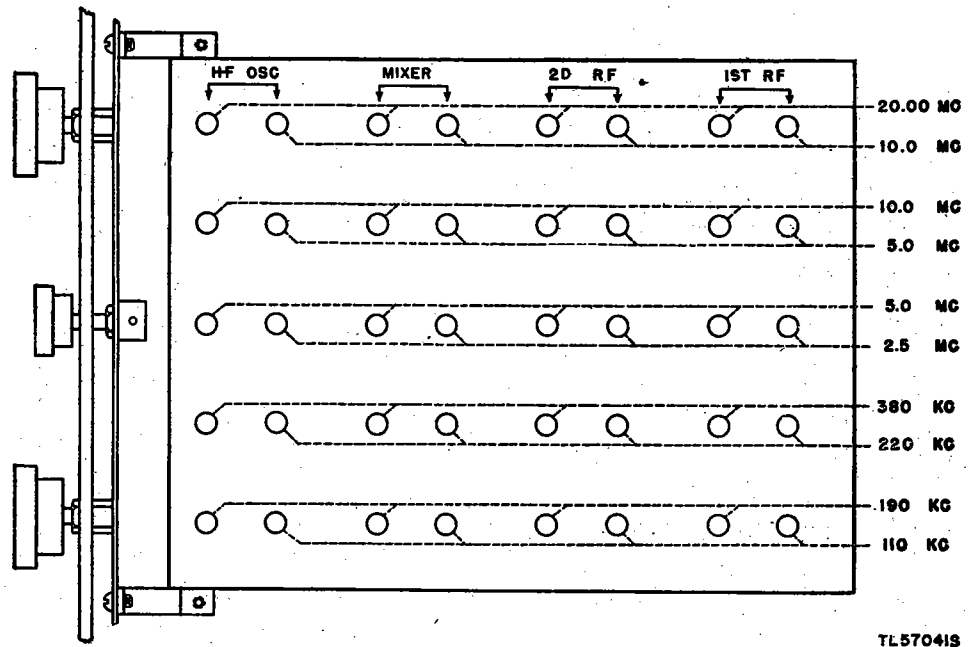
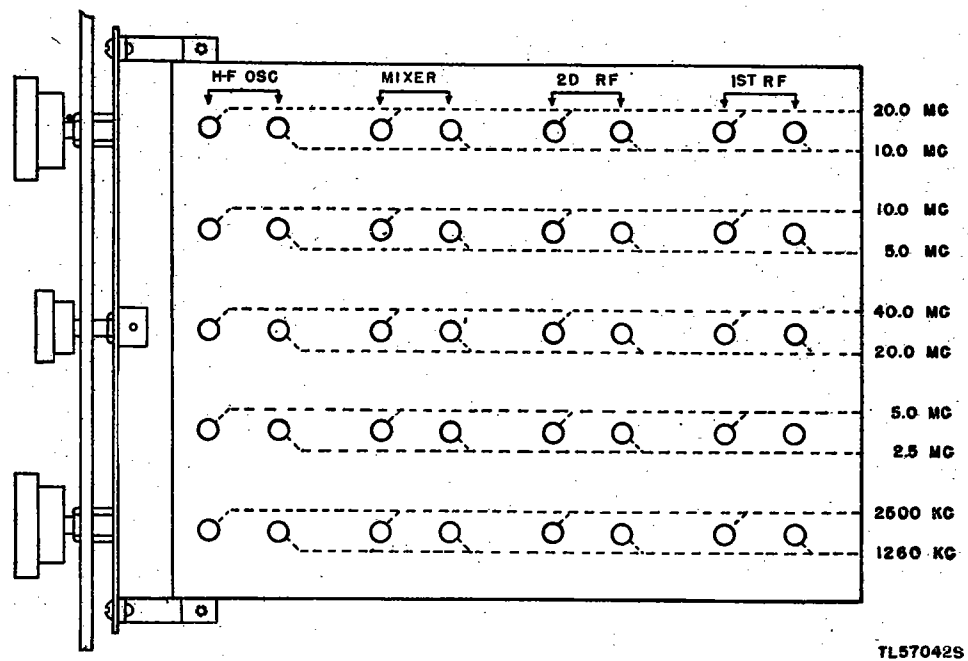

Figure 46. Radio Receiver BC-779-(*), alignment chart.
Figure 47. Radio Receiver BC-794-(*), alignment chart.
shown in figures 46, 47, 48, and 49, respectively. If necessary, the second harmonic can generally be used when the fundamental frequency is not available. For example, a signal generator covering all frequencies from 100 kc to 20 mc, in addition to being ideal for checking Radio Receiver BC-779-(*), could be used to check Radio Receiver BC-794-(*), by using the second harmonic of 20 mc instead of the 40 mc called for in figure 47. The signal generator should have an output of about 100 microvolts and an output impedance of approximately 100 ohms for best results when alining the r-f and h-f oscillator circuits. For i-f alinement these values are not critical. The frequency calibration of the signal generator is extremely important in order that the receiver dial calibration be correct.
b. To correct dial calibration, refer to an alinement chart, figure 46, 47, 48, or 49 for the location of the h-f oscillator adjustments as well as the signal frequencies at which the settings should be made. If the 2.5- to 5.0-mc band is to be corrected, the signal generator may be *accurately* set to 2.5 mc and its second harmonic (if strong enough) used for the 5.0-mc end of the band. In either case, whether the 5.0-mc frequency is the fundamental or second harmonic, the 5.0-mc frequency *must* be accurate. This requires that the setting of the signal generator be accurately adjusted by the use of a frequency meter as described in paragraph 94. The output of the signal generator should be unmodulated and the SIGNAL MOD-CW switch on the receiver turned to CW. Set the BEAT OSCILLATOR control at 0, the AUDIO GAIN at 10, and the AVC-MANUAL switch on MANUAL. Disconnect the output meter and use headphones or loudspeaker to make the necessary adjustments by the zero beat method. Connect the signal generator to the antenna terminals for this test.
c. Set the receiver MAIN TUNING dial to the 5.0-mc end and then tune it to zero beat with the 5.0-mc output of the accurately calibrated signal generator. Notice the approximate dial error. Then turn the MAIN TUNING dial slightly toward the 5.0-mc calibration line until the beat note rises to a high pitch. Do not turn the dial far enough to raise the beat note so high that you cannot hear it. With the alinement screw driver adjust the trimmer capacitor marked H-F OSC-5.0 MC (fig. 46, 47,
48, or 49) until the beat note is again zero. Turn the MAIN TUNING dial still farther toward the 5.0-mc line and make a further adjustment of the trimmer capacitor to return to zero beat. Repeat this procedure as many times as necessary to bring the dial to exactly 5.0 mc. (It is evident that the dial could be set at once on exactly 5.0 mc and the trimmer turned enough at one time to produce zero beat, but the step-by-step method is recommended). Accurately set the signal generator to 2.5 mc by calibrating it with the frequency meter. Then tune in the 2.5-mc signal at the l-f end of the MAIN TUNING dial and correct the calibration step-by-step, as before, using the inductance trimming adjustment H-F OSC-2.5 MC (fig. 46, 47, 48, or 49). Accurately set the signal generator for an output of 5 mc again, and tune the receiver to this frequency. It will be found that the adjustment of the inductance at 2.5 mc has changed the correction previously made at 5.0 mc. This is perfectly normal, because an adjustment at one end of the dial also affects the other end of the band. It will therefore be necessary to go back and forth several times from 2.5 to 5.0 mc in order to bring both ends of the dial scale into exact agreement with the signal frequency. Be sure that the signal generator is always accurately set.
c. Starting with the 2.5- to 5.0-mc band, set the MAIN TUNING dial at 5.0 mc (band spread dial at 100) and adjust the frequency of the signal generator for peak deflection of the output meter. Then check and adjust the setting of the trimmer marked MIXER and 5.0 MC in figure 46, 47, 48, or 49 for maximum reading on the output meter. Repeat this procedure on trimmers indicated as 2D RF and 1ST RF in the same row. If readjustments on one of these settings result in a sizable increase in output meter reading, slightly alter the SENSITIVITY control to reduce the reading to half-scale. After each adjustment check the tuning of the receiver to make sure that the test signal is still accurately tuned. The BAND SPREAD control may be used as a vernier for this purpose in those bands in which it operates (par. 15c). *This tuning check is extremely important at the high end of the 10- to 20-mc and 20- to 40-mc bands where there is some slight interaction between the mixer and h-f oscillator circuit.* After checking the three trimmers at the high end of this band, turn the MAIN TUNING dial to 2.5 mc and retune the signal generator to suit. Then check the three inductance adjuster settings marked 2.5 mc in the same row. Since adjustments at one end of a band also affect the other end of that band, it will be necessary to repeat the above procedure until no further improvement can be secured. The number of repetitions necessary will depend on how much mistuning existed to start with. Check the rest of the bands in the same manner.